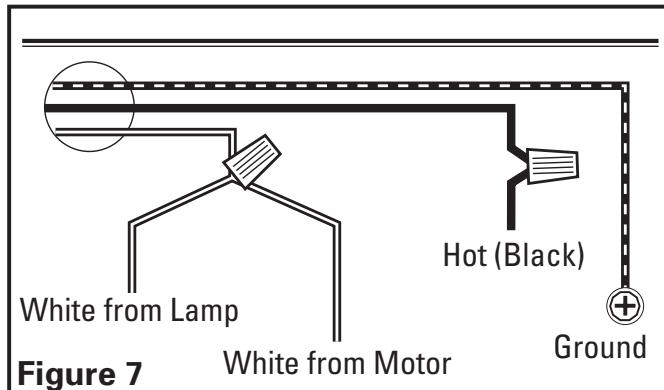

Figure 7
- Connect the 2 loose White wires from the range hood to the White wire from the supply, and the loose Black wire from the range hood to the Black wire of the supply. Connect the ground wire (green or bare) from the supply to the green ground screw of the hood. Use approved methods for all connections (**Figure 7**).